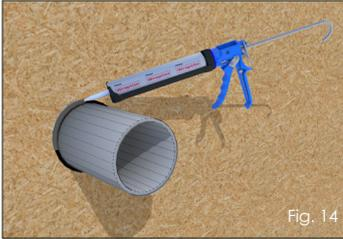

Fig. 14
1. Fill joints, gaps and cracks with liquid-applied flashing and smooth across the rough surface with a putty knife (Fig. 14, 16, and 18). Allow to fully cure.